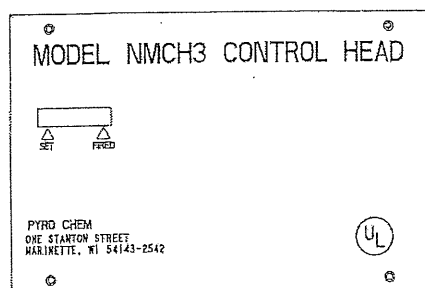

Figure 2-6a. Mechanical Control Head.
- ▶ actuate a maximum of five (5) cylinders. See Figure 2-6a.